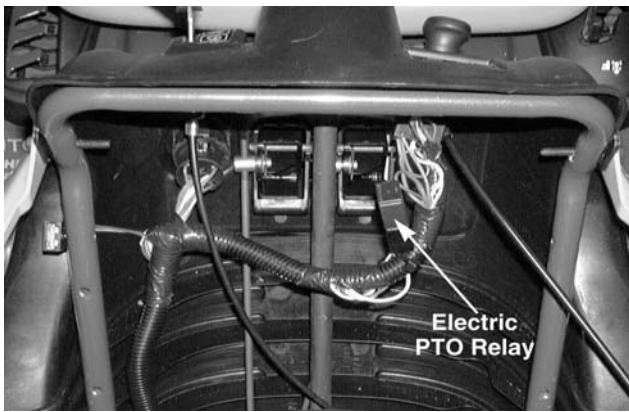

Figure 9-90
1. Locate the electric PTO relay and wiring harness. See Figure 9-90.